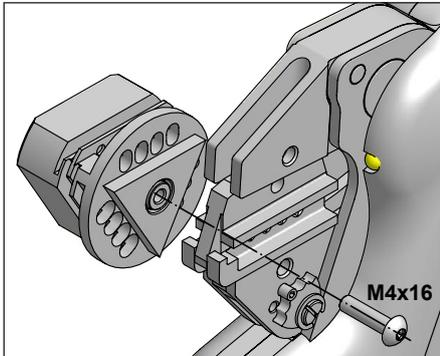
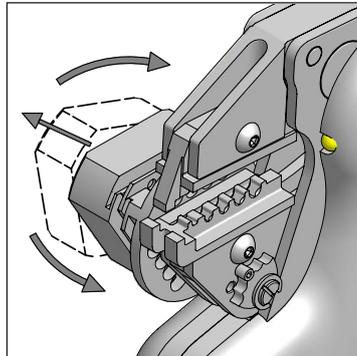

Figure 8
Figure 9
8.1.2.2 Example for rotated contacts (Figure 8, 9)
5. Place the positioning guide onto the M4x16 screw as shown in Figure 8 and secure using the thread contained in the locator. (Figure 9)